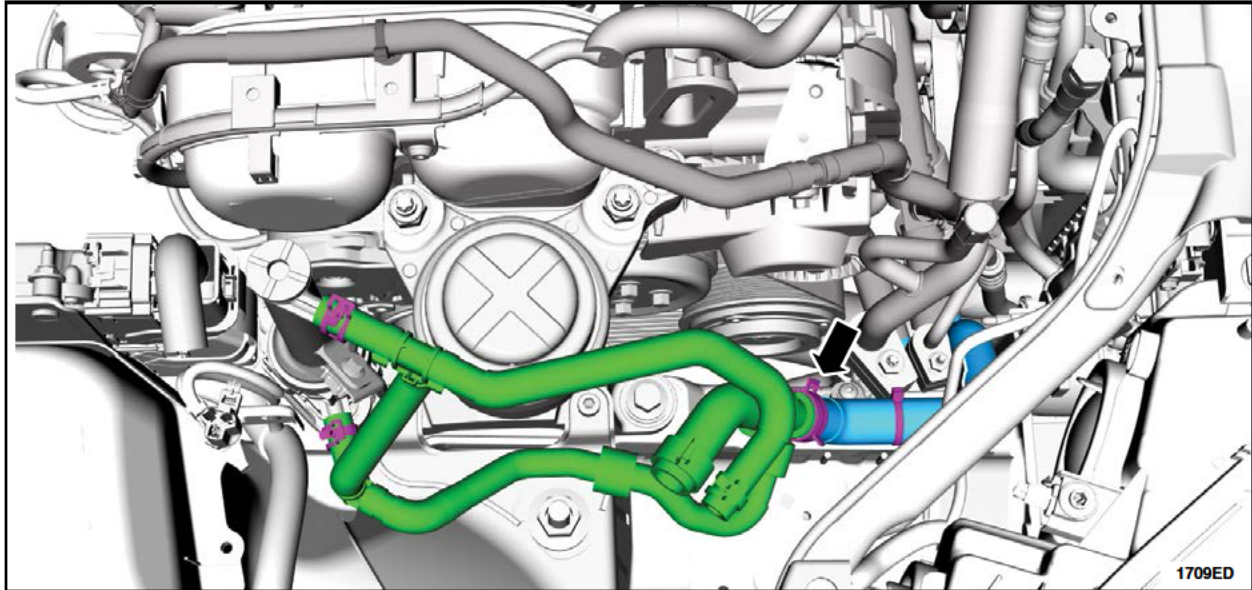

FIGURE I11
11. Install and connect the *new* upper portion of the *new* degas hose, to the previously installed *new* lower degas hose. Align the hose with the marks and install the hose clamp. See Figure I11.